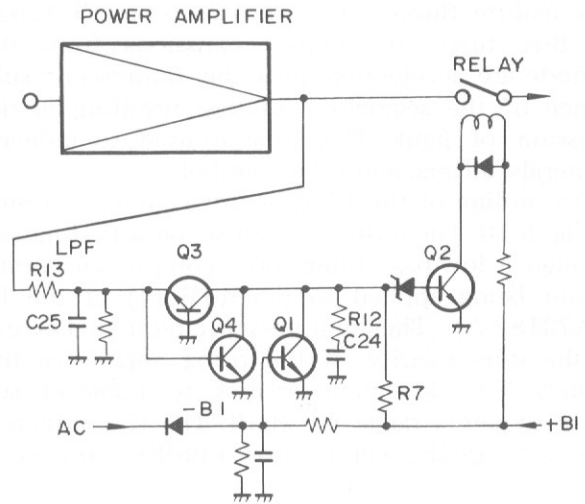

Fig. 5-11 Protection Circuit
With reference to Fig. 5-11 when the power supply is turned on,  $Q_1$  turns off due to  $-B_1$  (The time constant of the  $-B_1$  circuit is very small.). If there is no input (DC) on  $Q_3$  and  $Q_4$ , they will be off, and the timing capacitor  $C_{24}$  charges up through  $R_7$  and  $R_{12}$ , and thus  $Q_2$  turns on. When  $Q_2$  conducts, the relay operates, and the output muting on the power amplifier will be removed.